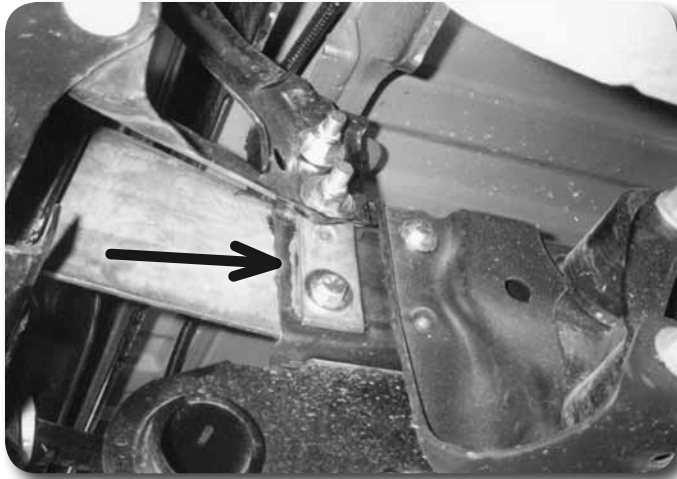

Figure 30a
89. Locate the new side bumper support brackets. These brackets have four holes - 1 round hole, 1 square hole and 2 countersunk holes. The square hole will be in the top position and accept a carriage bolt. Install the provided 1/2" carriage bolt and 1/2" flat head bolts in the brackets as shown in **Figures 30a/b**. Install a 7/16" x 1-1/2" bolt, nut and washers in the lower hole. Leave hardware loose.